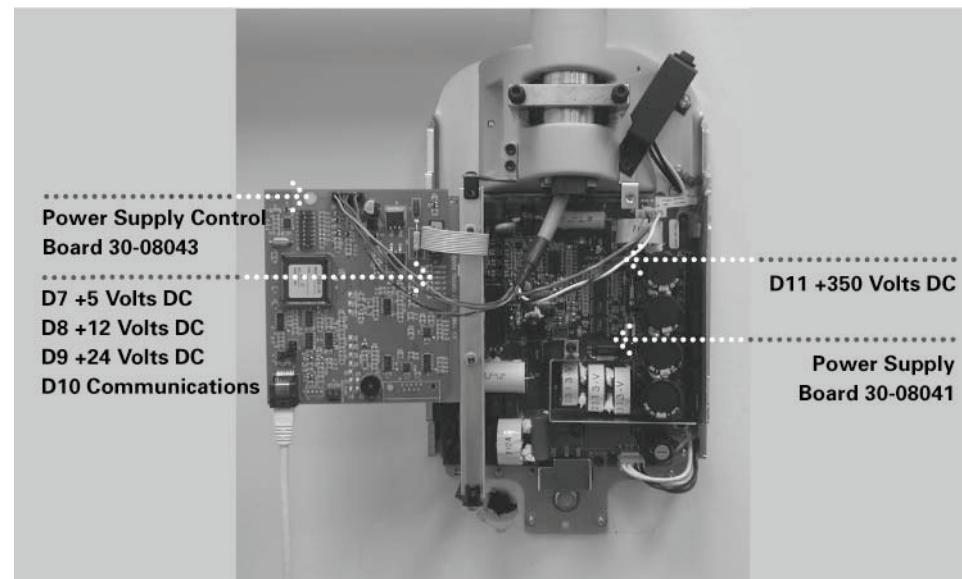

Figure 28
1. On Power Supply Board 30-08041, shown in Figure 28, verify that LED D11 is illuminated. The illuminated LED verifies that appropriate supply voltages are present.
2. On the Logic Board 30-08160, shown in Figure 28, verify that LEDs D7 (+5VDC), D8 (+12VDC) and D9 (+24VDC) are illuminated and LED D10 is flashing. Each illuminated LED verifies that appropriate supply voltages are present. If the LEDs are not illuminated, refer to the “No Operator Display but Power Switch is On” procedure in the Troubleshooting section of this manual.